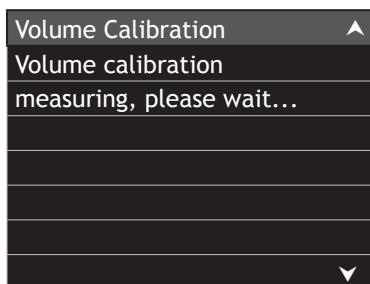
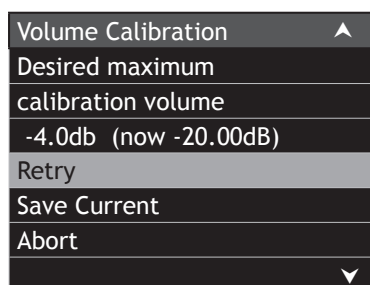
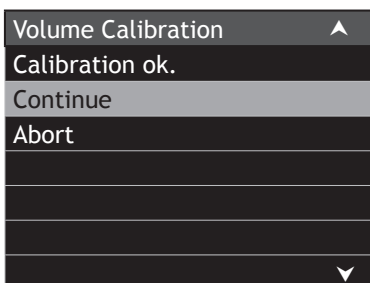
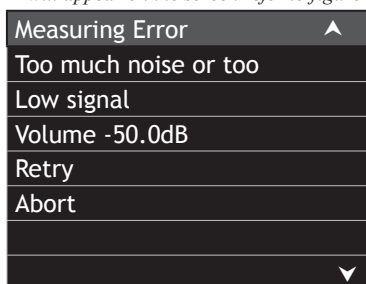

Figure 27
Figure 28
Figure 29
Figure 30
5. Press the SELECT Push-button and the “Volume Calibration measuring” will appear. Refer to figure 27. The MX151 will send out to each of the loudspeakers, one at a time, a test tone to obtain a measurement level making sure it is above the background noise level in your room. Several minutes after testing, figure 28 (on page 26) will appear on-screen. Select “Save Current” and press the SELECT Push-button. When figure 29 (on page 26) appears On-Screen, select continue and press the SELECT Push-button.
*Note: The Desired maximum calibration volume (-4.0db) level and the current (now -20.00dB) volume indications in figure 28 will probably be different in your room. The size of your room, loudspeaker distance from the microphone position and the efficiency of the loudspeakers all effect the readings. If the test signal was too loud, reduce it by using the Volume Control by 10dB (the example in figure 28 would now read -30.00dB). Select "Retry" then "Save Current". If for some reason the volume level needs to be higher, a "Measuring Error" will appear on the screen refer to figure 30.*